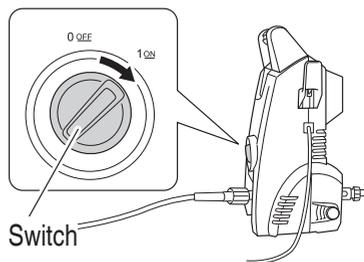

Fig. 14
2. **Set the switch to the “ON” position (Fig. 14)**